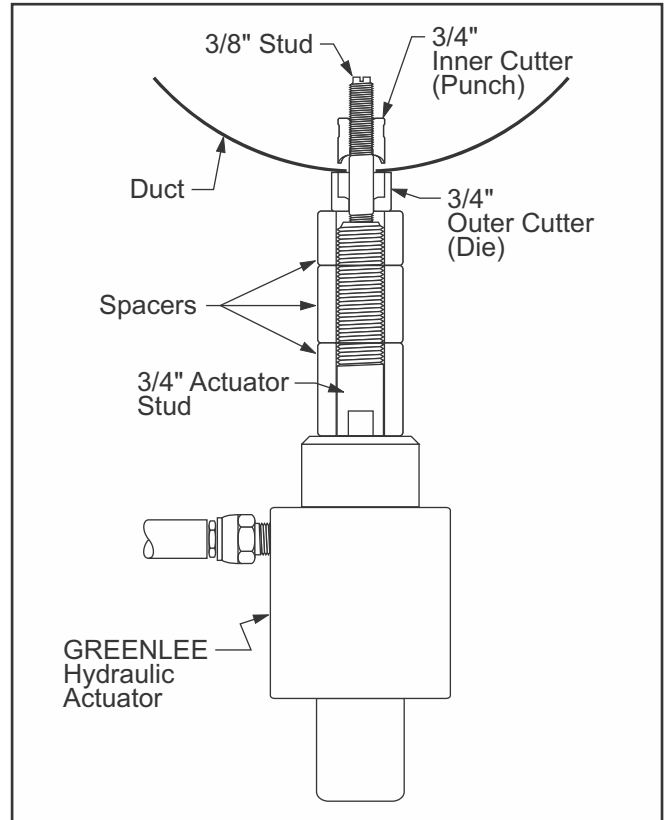

Fig. 38: 3/4" Hydraulic Punch Configuration
4. Swage Hole: Slide the 1-7/8" outer swage tool (for 1-1/2" test port) or the 60mm outer swage tool (for 2" test port) onto the 3/4" actuator stud. Insert the actuator stud and outer swage tool into the 1-7/8" hole (for 1-1/2" test port) or the 60mm hole (for 2" test port). From inside the duct slide the matching inner swage tool onto the actuator stud. Invert and thread any one of the three punches onto the actuator stud (cutting surfaces facing away from the inner swage tool) until the inner swage tool, the duct and the outer swage tool are snug. Operate the hydraulic actuator to compress the swage tools together to form the swage. Loosen and remove the swage tool. (Fig. 38)